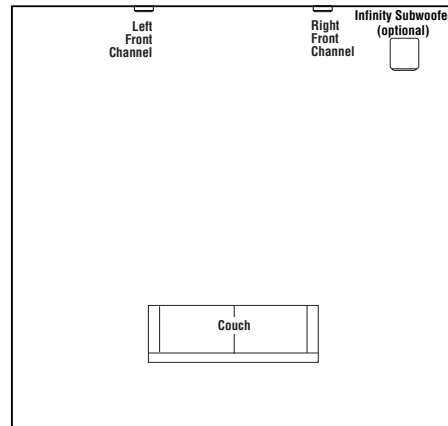

Figure 1.
Before deciding where to best place your speakers, survey your room and study Figures 1–3.
**Note:** Figures 1, 2 and 3 show recommended speaker locations. You may also follow these general placement suggestions when installing the speakers in the ceiling.
Before deciding where to place your ERS Series speakers, survey your room and think about placement, keeping the following points in mind, and using Figure 1, on previous page, as a guide: